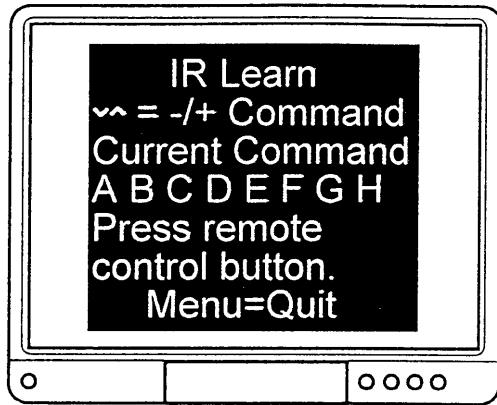

Figure 11.
Step 3. Use the '∨', '∧' keys to move the highlight to the first letter (A), or the letter you wish to allocate to the first infra-red signal, and press 'Enter'. The on-screen display will change to the display shown in figure 11.